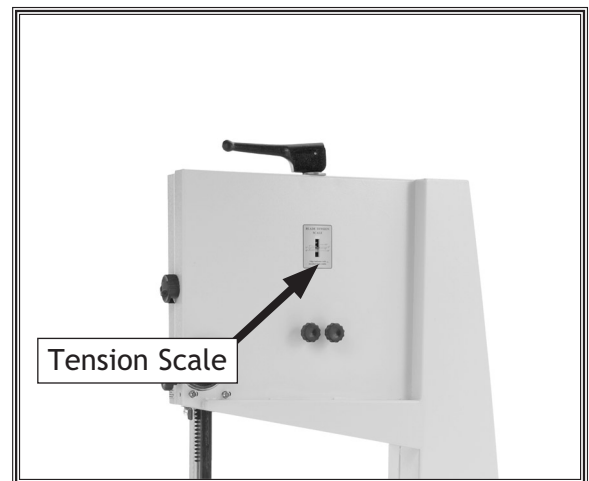

Figure 47. Tensioner adjustment.
9. Turn the tension knob until proper blade tension has been reached according to the blade thickness scale shown in **Figure 47**.